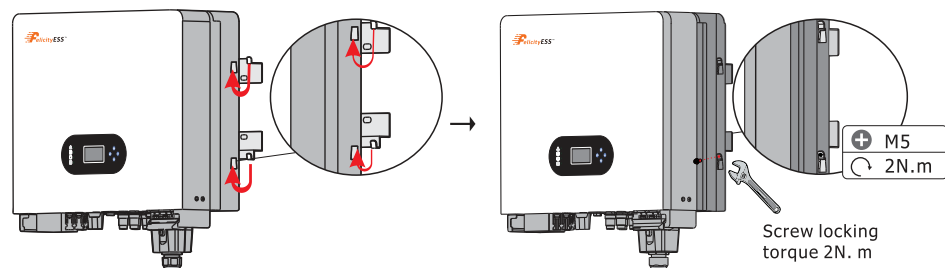

Figure 3.4-2 Installing an Inverter
Step 2. Lift the inverter to fix it on the installation bracket, We can prevent theft by locking. See Figure 3.4-2.